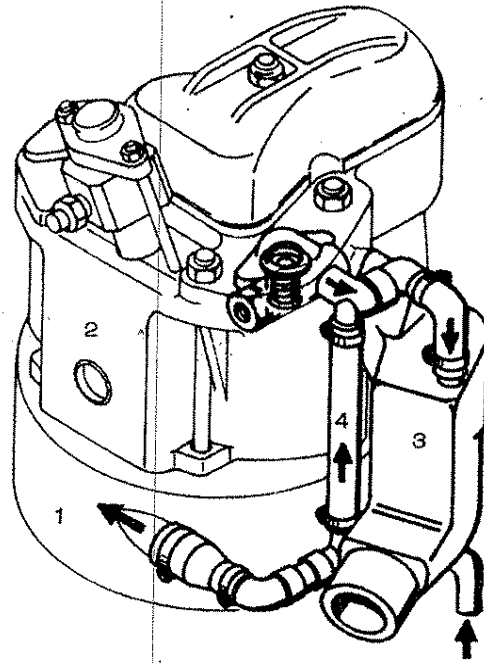

Fig. 69
- Single cylinder engines: see no. 4 in Fig. 69.